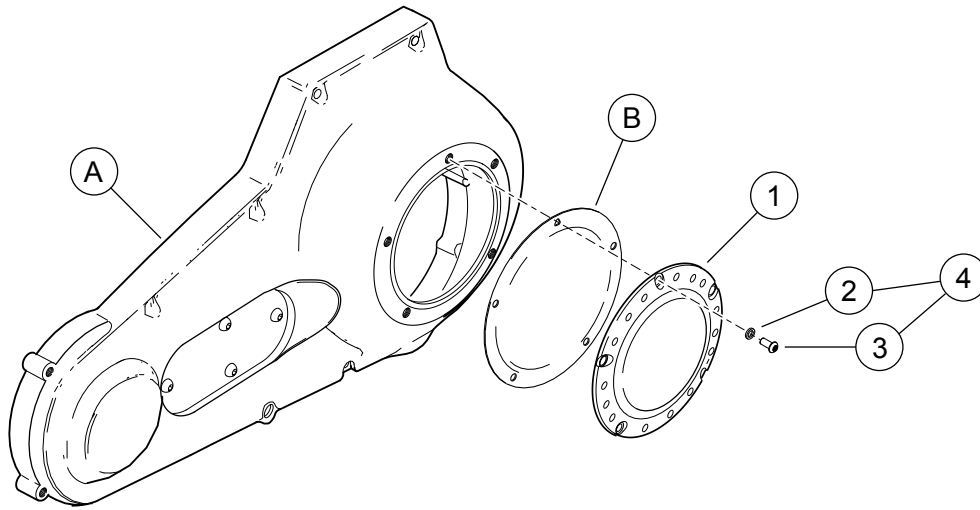

Figure 2. Service Parts: Chrome Billet Derby Cover Kit
See Figure 2 and Table 1.
- b. See Figure 2. Place a washer (2) from the kit onto the threads of one of the **new** screws (3). Insert the screw threads through the top hole in the derby cover, and carefully thread it all the way through the triangular shaped hole in the gasket. Do not push the screw through the hole.